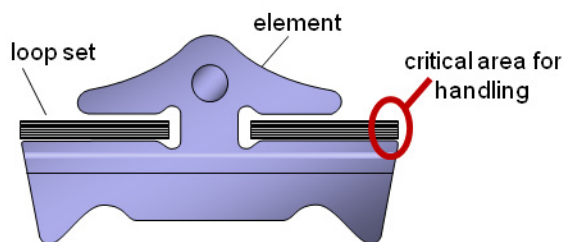

Figure 1: Cross-section of pushbelt
- The critical area for handling is the side of the belt (see Figure 1). Always avoid loop to loop contact between belts, and loop contact with hard sharp edges.